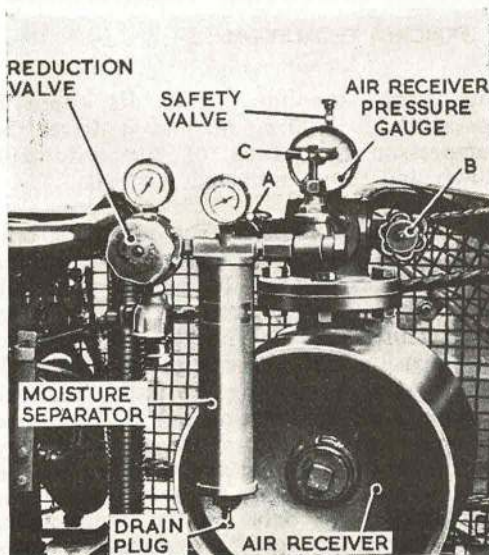

Fig. 8. VALVES
18. Compressed air can be supplied at any pressure between 5 and 100 lb per sq. in., the air pressure at the final outlet being determined by the setting of the regulator valves and reduction valve (Fig. 8).